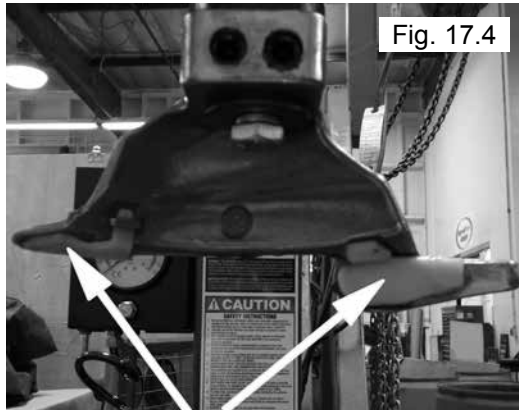

Fig. 17.4
1. Inspect inserts and clean dirt and debris from the mount/demount tool roller with small screw driver or pick. (See Fig.17.4)